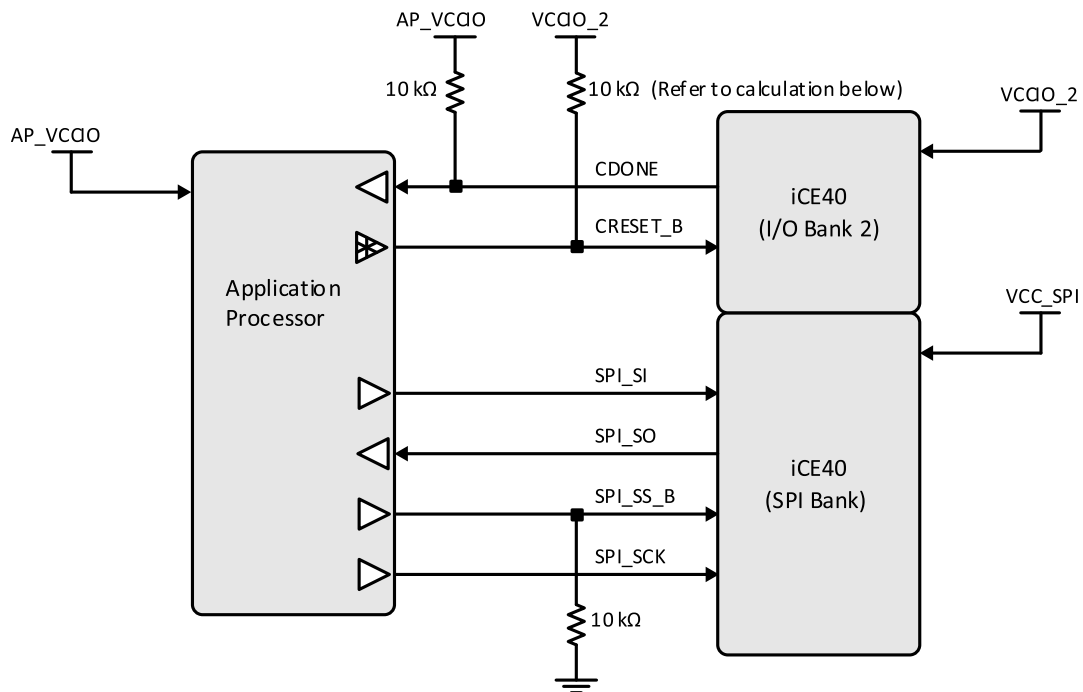

Figure 13.1. iCE40 SPI Slave Configuration Interface
Using the SPI slave configuration interface, an application processor (AP) serially writes a configuration image to an iCE40 FPGA using the iCE40's SPI interface, as shown in Figure 13.1. The iCE40's SPI configuration interface is a separate, independent I/O bank, powered by the VCC_SPI supply input. Typically, VCC_SPI is the same voltage as the application processor's I/O. The configuration control signals, CDONE and CRESET_B, are supplied by the separate I/O Bank 2 voltage input, VCCIO_2.
As shown in Figure 13.1, there are potentially three different supply voltages involved in the SPI Peripheral interface, described in Table 13.2.